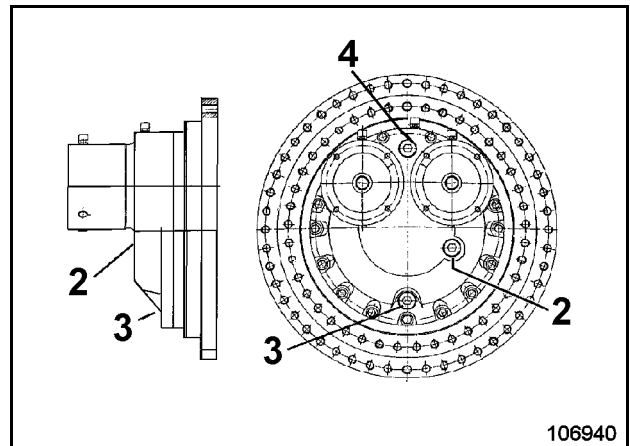

Fig. 3-133:
- Check oil level at the inspection glass (2, Fig. 3-133:). The oil level should be the center of the inspection glass.
- If required screw out plug (4) and top up with oil through the opening. (Oil grade see "LUBRICANTS" section).
- Screw in plug (4) back in place.